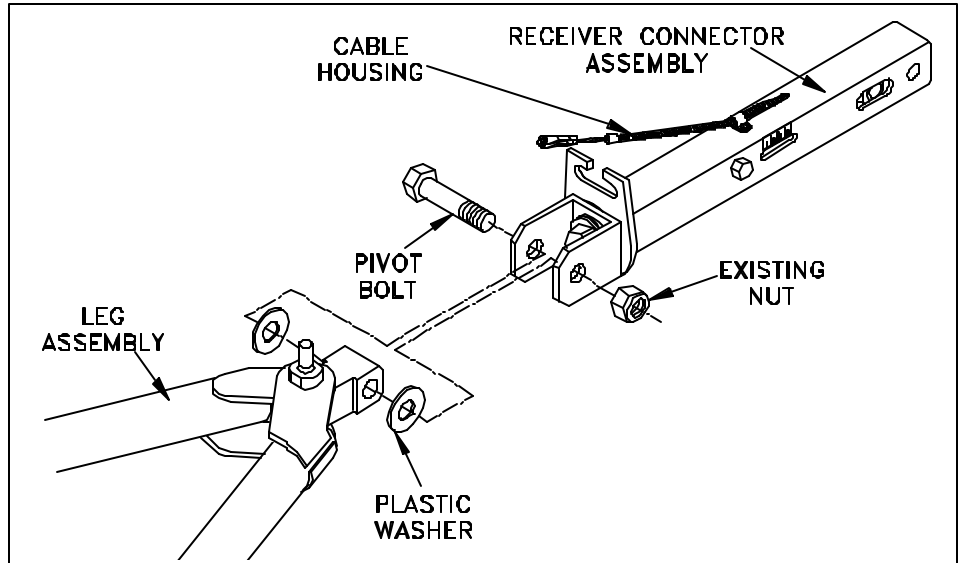

Figure 2
- B. This AutoStop is designed to be installed in place of the receiver connector of the Aladdin tow bar. (Figure 2)
- C. You must tow the vehicle with all four (4) wheels on the ground.